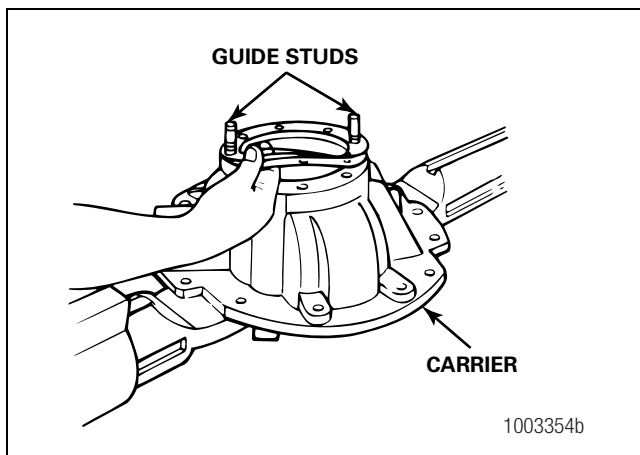

Figure 5.22
1. Select the correct shim pack and install it between the bearing cage and carrier. Figure 5.22.
3. Align the oil slots in the shims with the oil slots in the bearing cage and carrier. Use guide studs to help align the shims. Figure 5.22.